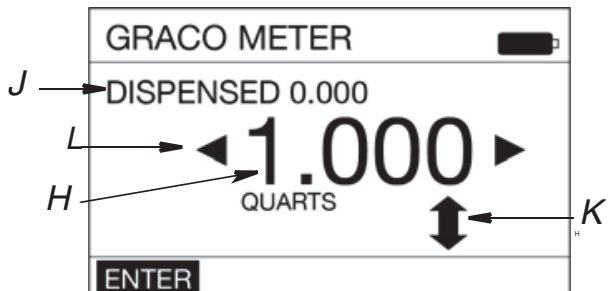

FIG. 31
2. If ACTIVATE (A) is not highlighted, use the LEFT or RIGHT ARROW button on the keypad to highlight ACTIVATE (FIG. 31); then press the center, ENTER button on the keypad to select it.
- PRESET** - Allows for increasing, decreasing or entirely changing the amount of fluid for the PRESET selection. The screen shown in FIG. 31 displays. See Function Command (C)/PRESET, page 18 for instructions on changing the PRESET).
- RESET** - Resets the Dispensed Fluid Counter (D) back to 0.000.